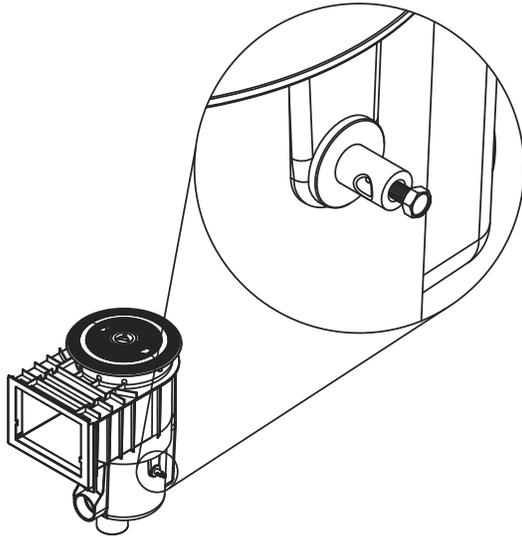

Figure 5
3. Bonding can be performed by utilizing the integrated stainless steel bonding lug (optional upgrade) located on the outside of the QuikSkim (Figure 5). The bonding lug is molded into the body and connects to a corrosion resistant 316 stainless steel bonding plate located on the inside of the skimmer (Figure 6b). However, in the event that this plate should ever become corroded, it can easily be replaced by loosening the stainless steel locking nut (Figure 6a), removing the old bonding plate, adding a new bonding plate and securing the locking nut.